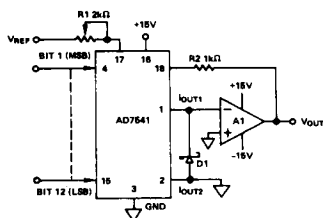

Figure 15. Unipolar Binary Operation
1. Protection diodes as shown in Figures 15 and 16.
UNIPOLAR BINARY OPERATION (Figure 15)
sistors within the AD7541. D1 and D2 perform the same function as in Figure 15. Network R5, R6, R7 sum 1/2LSB of current into I_{OUT2} to ensure correct coding at zero.
Table I. Code Table for Circuit of Figure 15
With the AD7541 connected in its normal multiplying configuration as shown in Figure 15, the transfer function is